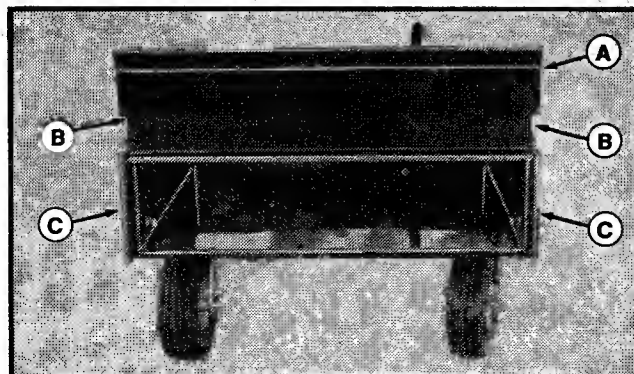

Figure 8
2. Lift the tailgate (A, figure 8) up so that the slots (B) on the tailgate are just above the track (C). Swing the tailgate (D, figure 9) down for unloading.